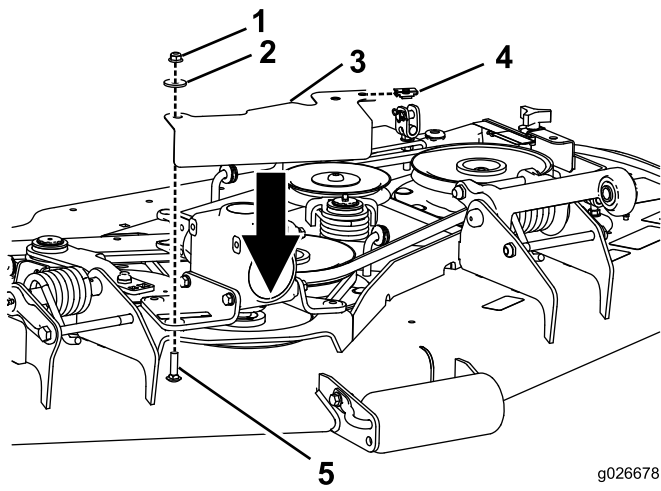

Figure 2
2. Using the nuts removed in the previous step, mount the pulley shield to the gear box mounting brackets (Figure 2).
3. Install the retainer nut over the empty hole in the pivot pulley shield (Figure 2).